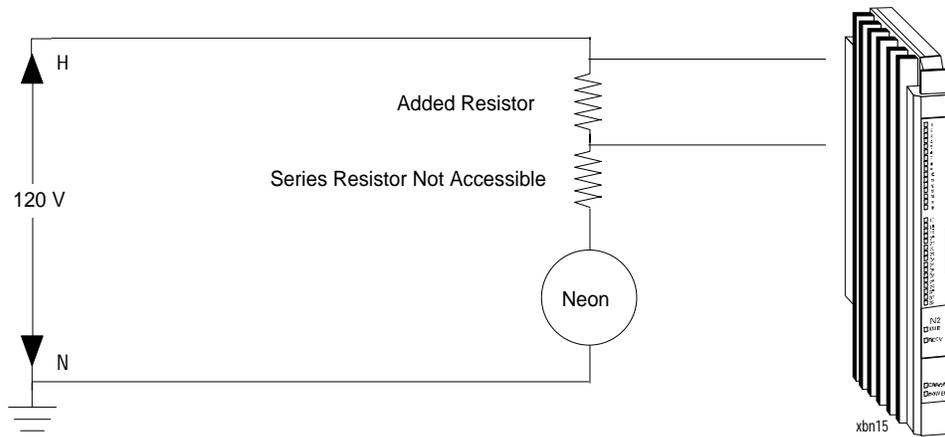

Figure 17: Sensing Across the Added Series Resistor for Neon Lamp Applications
- Sense across an added series resistor, one tenth the size of the built-in resistor (Figure 17). Use this method when the built-in resistor is difficult to access. (Set XBN switch to Voltage mode.)